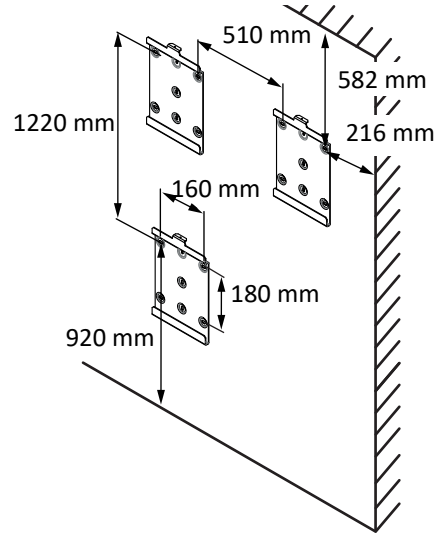

Fig. 8: Wall mounting
- Minimum clearances to be observed during installation: [See figure 8] [▶ Page 16]